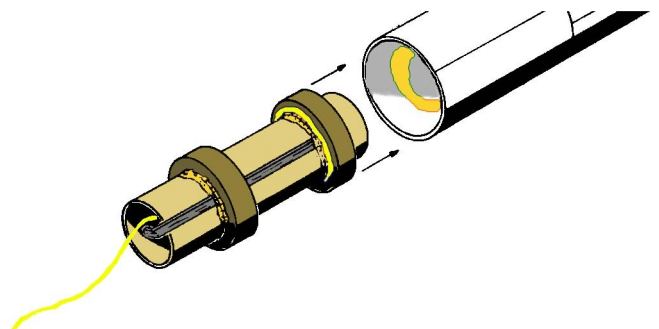

Figure 9
- **Step 25** As shown in Fig. 9 above, apply a bead of glue 3.75" up from the bottom of the booster tube, along the inside diameter. Use a brush to spread the glue evenly. Insert the short motor mount into the tube from the bottom, with the engine hook aligned opposite one of the fin alignment lines, until the bottom end of the motor hook is even with the bottom edge of the booster tube. The top ring should push through the glue bead about 1/4" or so. Set this aside in an upright attitude to dry.